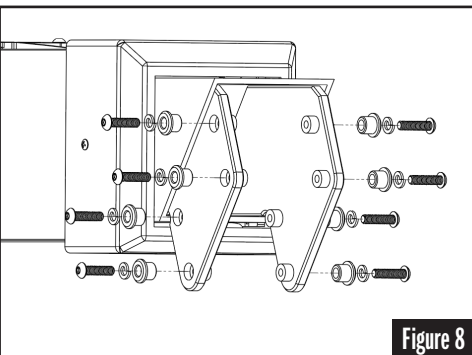

Figure 8
STEP 7: Make sure the Bolt Plate is level with the playing surface. See Figure 8. Let concrete dry 72 hours before removing frame & installing the hoop.
- Remove the hardware from the top end of the Base Pole. See Figure 8.